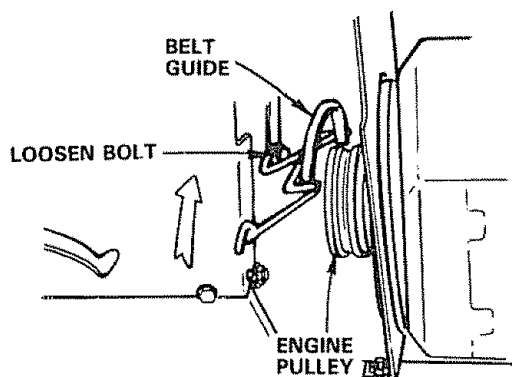

FIGURE 33
- Loosen (do not remove) two engine pulley belt guide bolts and swivel R.H. side of belt guide up. Tighten L.H. bolt to hold belt guide in position (Fig. 33).